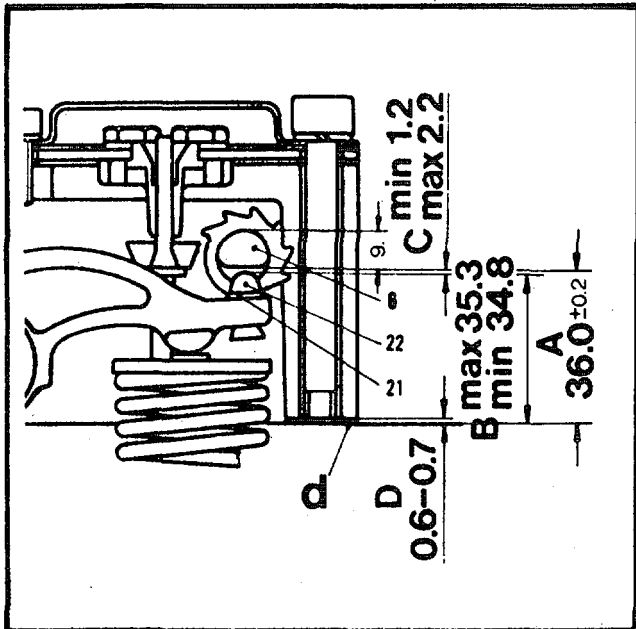

Figure 6-11. Compression Adjustment
(32) Install o-rings (8) on shaft (6), install shaft (6) into valve cover (4). Install one retainer clip (19) at base of shaft (6), and the other at the end of the shaft. Place ball (10) and spring in cover (4) and install threaded plug (12).
(33) Rotate flywheel until compression resistance is noted. Using tool No. 38, adjusting gauge, (Figure 2-1), determine if the top of pin "a" on rocker arm (23) falls between the minimum of maximum allowable values. (See Figure 6-11 and 6-12).
(34) If a new pressure pin (22) and spacer (21) are required, place new pressure pin in rocker arm, using spacers (21) to adjust for proper height requirements for distance "B" (min. 34.8 mm max. 35.3 mm). Using tool No. 39, riveting tool, attach new pressure pin (22) and spacer (21) to rocker arm (23). (See Figure 6-11.) Proper tool set up and adjustment will help make a tight pressure pin seal to the rocker arm.
(35) Place gaskets (29) over studs (30), install exhaust muffler (28) over studs (30) and secure with nuts (27). Install cover gaskets (13), valve covers (4) and secure covers to cylinder head using screws (3). Attach lifting straps (2) to cylinder heads using screws (1).